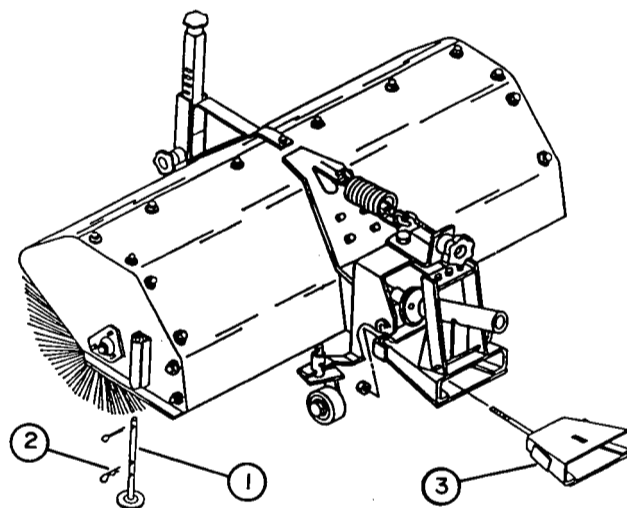

FIGURE 1
- a) Insert a parking stand (fig.1, item 1) in each stand support from the underside. Install a $5/32" \times 1\ 1/4"$ cotter pin in upper hole of each parking stand. Set parking stands in most extended position and secure each stand with a $4\text{mm} \times 8\text{mm}$ hairpin (fig.1, item 2).
- b) Install adapter (fig.1, item 3) inside broom female hitch. Secure with a $5/8"$ nylon nut.